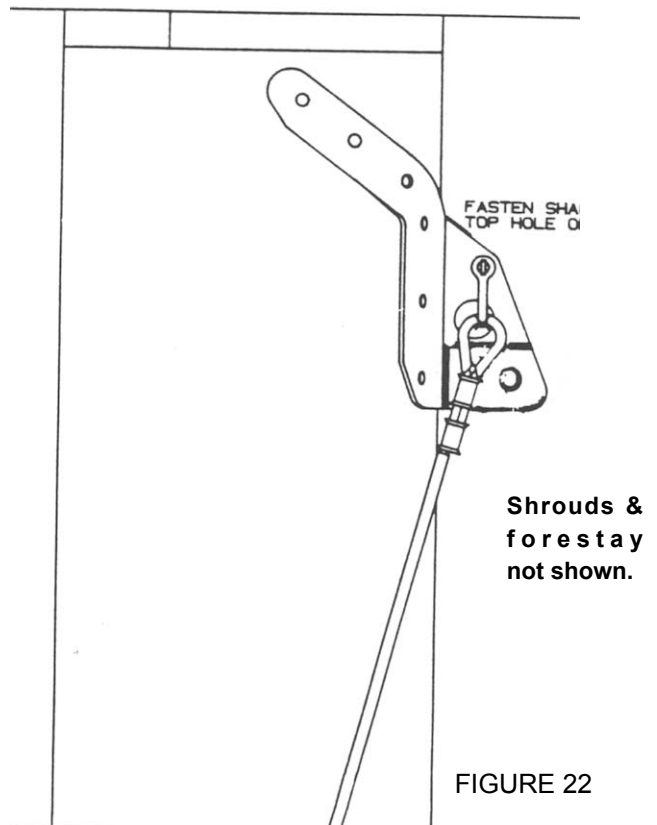

FIGURE 22
13.10 Place the small bell shackle in the middle hole of the mast tang. Slide one of the trapeze wires onto the left side of the shackle and one on the right side of the shackle. (FIGURE 22)
13.11 Secure the shackle by attaching the pin through the top hole of the mast tang. Be sure to tighten with a pair of pliers. (FIGURE 22)